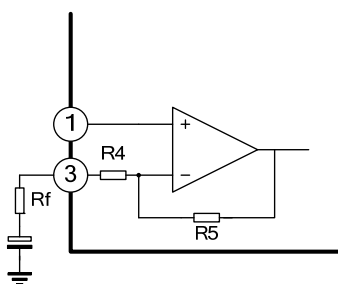

Figure 2
2. Adjustment of the voltage gain (Figure 2)
The voltage gain is fixed at $G_V=40\text{dB}$ by the resistors(R4 and R5) in IC. Its reduction is possible through adding R_F as shown in Figure 2. In this case, the voltage gain is obtained by the following equation: $G_V=20\log(R_5+R_4+R_F)/(R_4+R_F)$. It is recommended to use this IC with the voltage gain of $G_V=28\text{dB}$ or over.